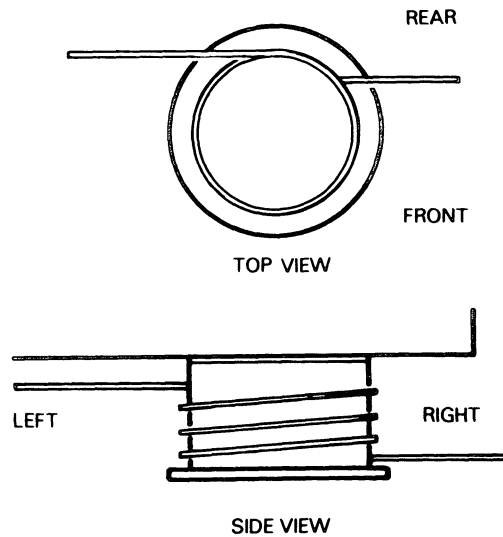

Figure 5.8 Cable winding
7. Wind the cable three turns around the gearbox capstan (see Figure 5.8).